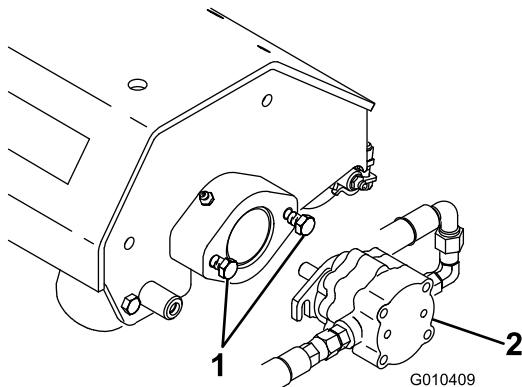

Figure 8
- A. Loosen the mounting screws and washers for the reel motor to each tri-roller. Leave approximately 1/2 in. (13 mm) of threads exposed on each mounting screw (Figure 8).